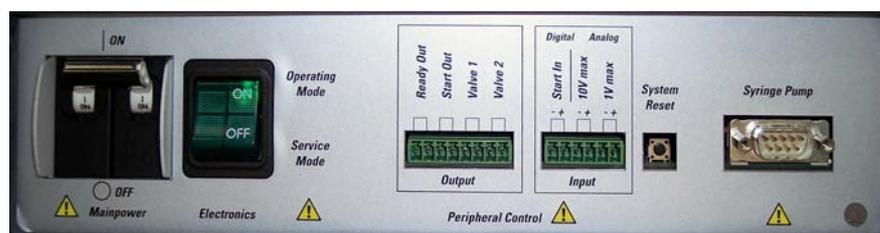

Figure 4-1. Power panel, showing main power circuit breaker switch and reset button
If you need to turn off the MS detector in an emergency, place the main power circuit breaker switch, located on the power panel on the left side panel of the MS detector (see Figure 4-1), in the Off (O) position. This turns off all power to the MS detector, including the vacuum pumps.
To reset the MS detector, press the reset button located on the power panel. See Figure 4-1 on page 4-2. Make sure the Status LED is extinguished before releasing the reset button. When you press the reset button, the following occurs: